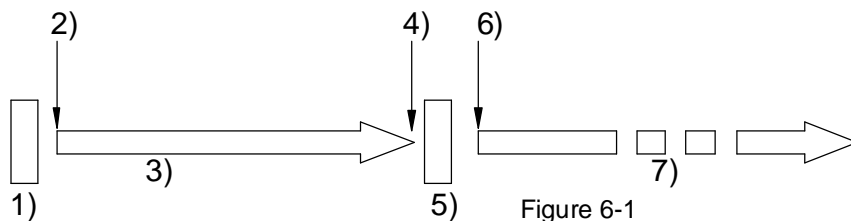

Figure 6-1
- Figure 6-1 shows the relationship between the play and pause.